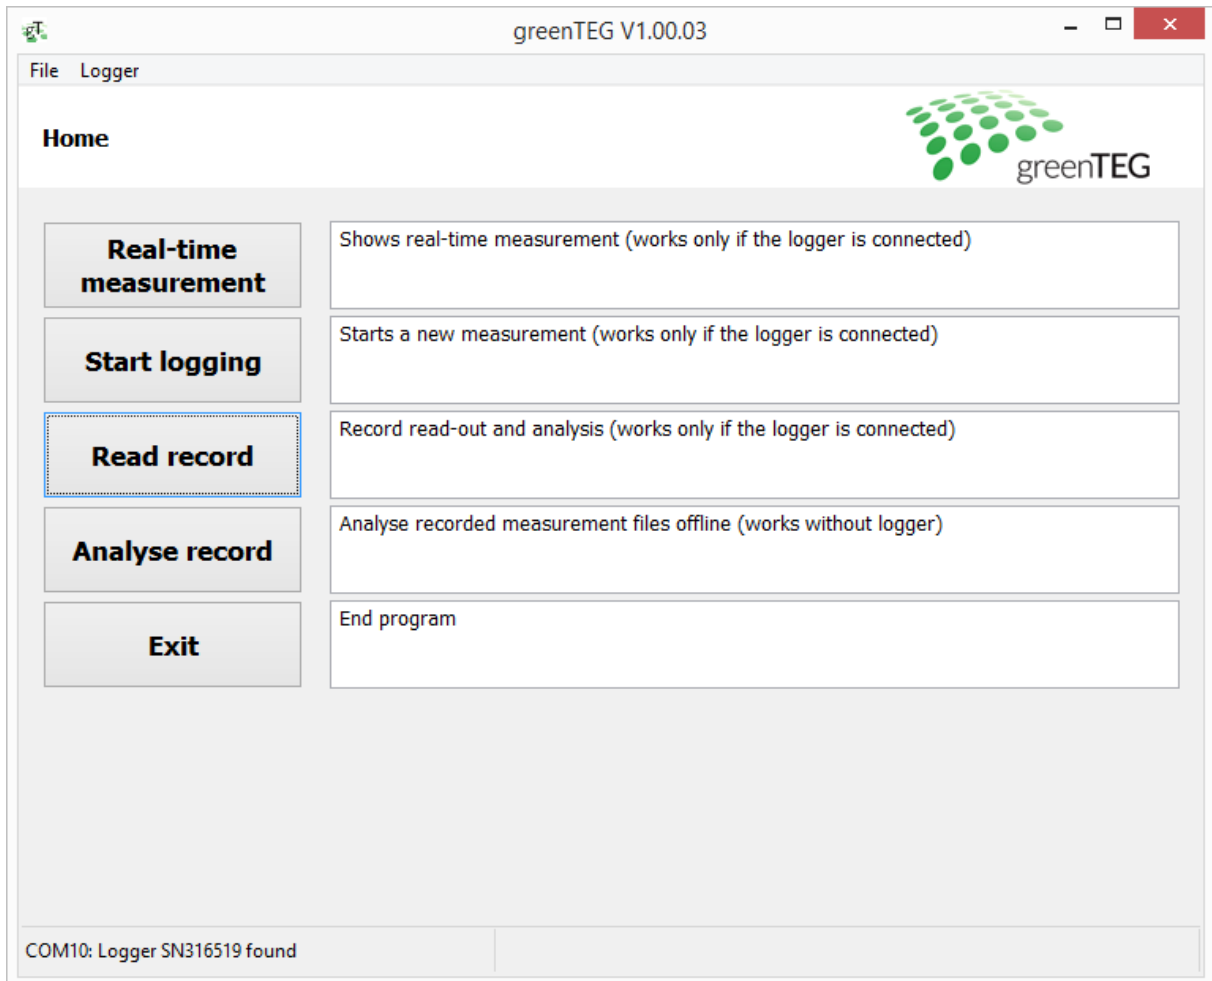

Figure 2: Home screen view with data logger connected to your laptop
The gSKIN® Heat Flux software is built upon a home screen with 7 functional buttons (see figure 2):
4. When you open the software the home screen will appear (see figure 2). Under "File" > "Language" you can change the language settings from English to German or vice versa
- To review other data logger files stored on your laptop, you can select these files via your **home screen** by using the “Analyse record” button (see figure 2)